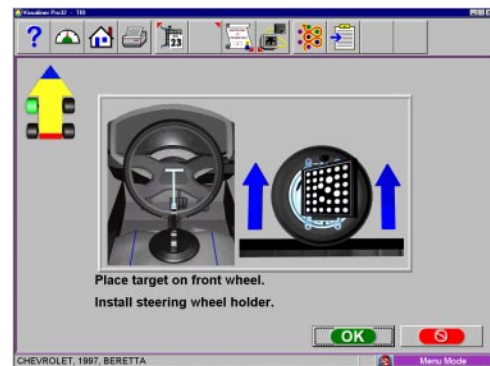

Figure 3-44
5. Once the wheel is selected the screen will instruct the operator to place the target/clamp assembly on the front wheel and lock the steering wheel using the clamp. (Figure 3-44) This step insures the wheels will not move laterally during the Target ID procedure. The next step on this screen is to elevate the front wheels to allow them to rotate as needed. Click OK when ready to proceed.